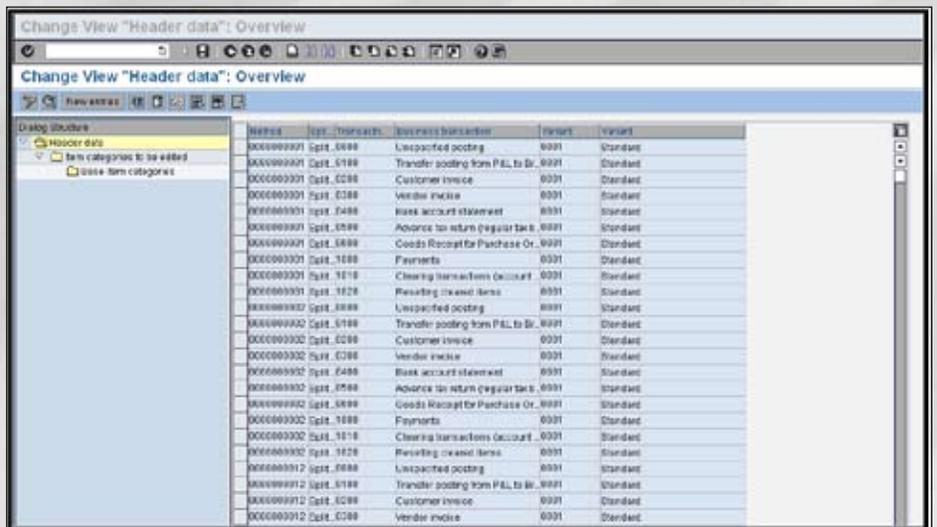

Figure 3: Maintenance of Document Splitting Rules
• **Define Document Splitting Rule** – This is where you define your own splitting rules and methods. In Figure 3, you see the screen displayed when you execute this configuration activity; here you'll find the entire list of available splitting methods along with their respective business transactions and variants.